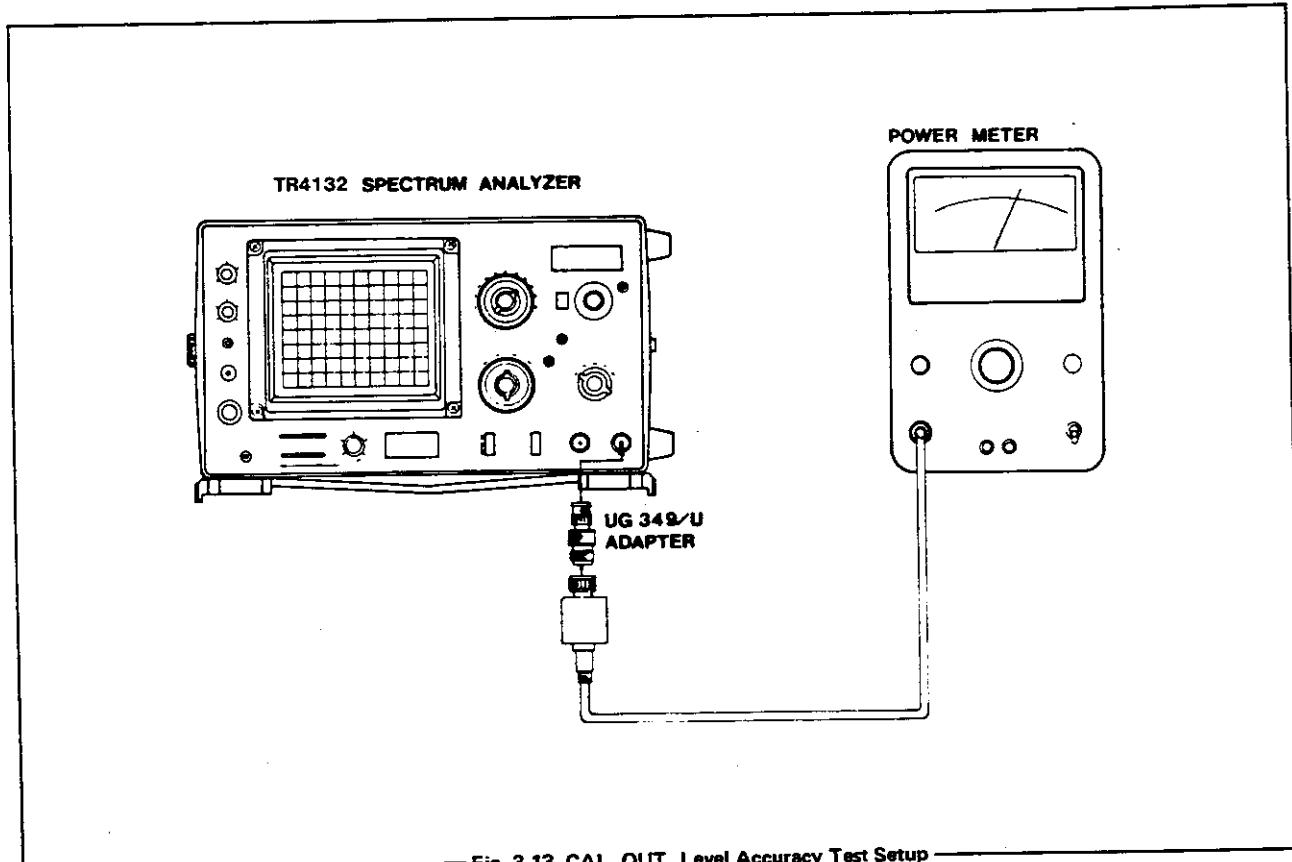

Fig. 3-13 CAL. OUT. Level Accuracy Test Setup
- (1) Connect the equipment to CAL. OUT. of the instrument as shown in [Fig. 3-13] and measure the level of the calibration output signal.
- (2) Check that the measurement reads as follows: